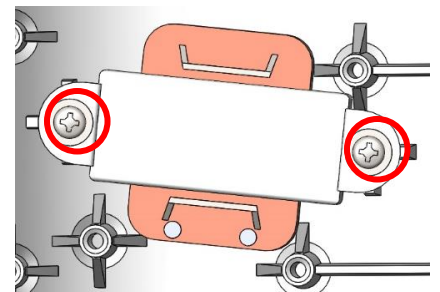

Fig: 14
6. Remove the two transformer retaining screws and then lift out transformer. (Fig: 14)